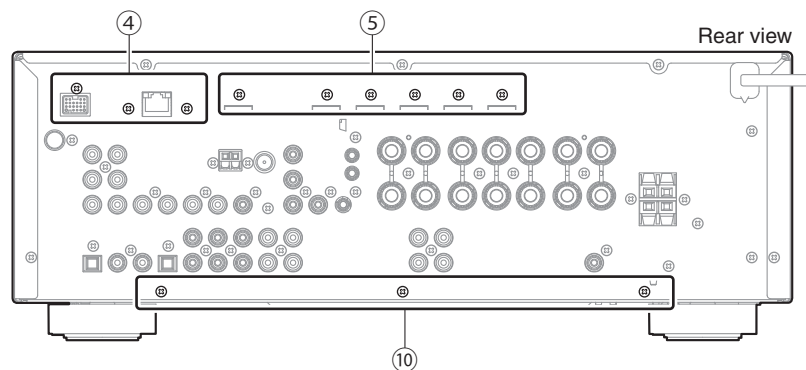

Fig. 3
3. Removal of DIGITAL (1) P.C.B.
- a. Remove 3 screws (④) and 6 screws (⑤). (Fig. 3)
- b. Remove 3 screws (⑩). (Fig. 3)
- c. Remove 3 screws (10). (Fig. 3)